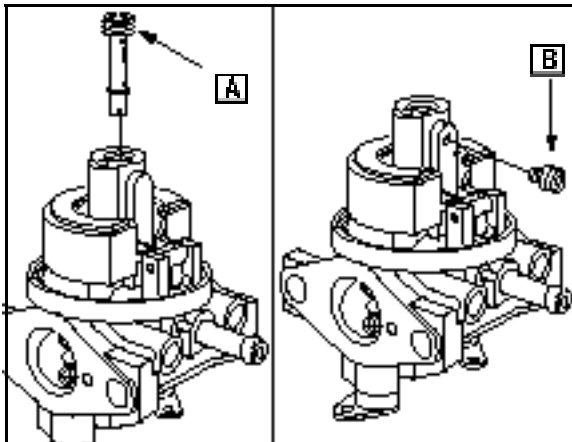
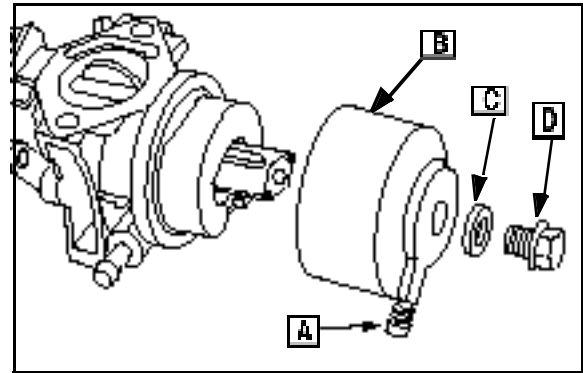

Fig. 69
Fig. 70
19. Install the emulsion tube (A) and then the main jet ([B] Fig. 69).
20. Position bowl drain (A) as shown, Fig.69.
21. Install float bowl (B), washer (C), and mounting screw (D), to carburetor.
22. Tighten screw ([D] Fig. 70) securely.